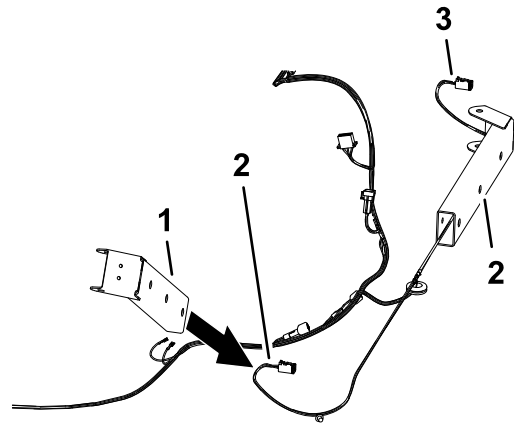

Figure 10
1. Assemble the 2 worklight mounts onto the 112 cm (44 inches) wire harness branch and the 99 cm (39 inches) wire harness branch as shown in Figure 10.